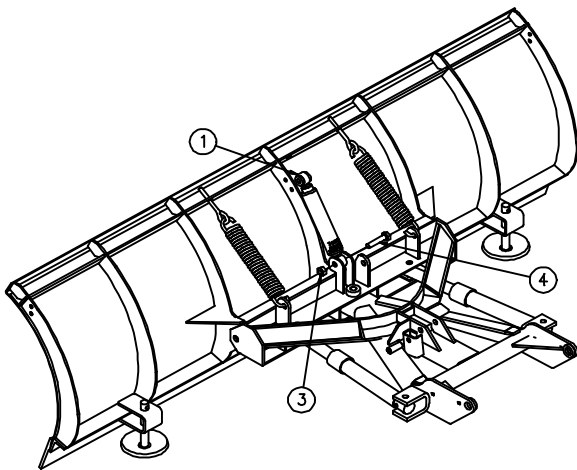

Figure 3. Shock Absorber to Attachment Bar G10061
- 3) Insert 5/8"-11 x 3" Hex Head Cap Screw (4) through the mounting tabs and the base end of Shock Absorber (1). The head of Hex Head Cap Screw (4) must be on the right side of the mount as illustrated in Figure 3. Install